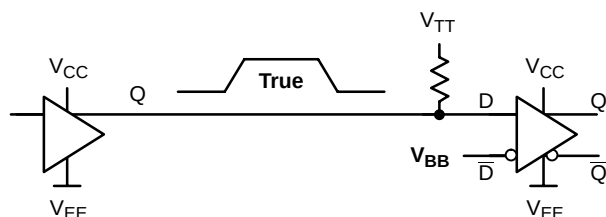

Figure 4. Standard SE Receivers with V_{BB}
For a standard differential receiver with two input pins – D and $\bar{D}$ – only one of two inputs is suitably selected to receive the signal while the non-driven input must be biased to a (DC) reference voltage, V_{BB} (see Figure 4).